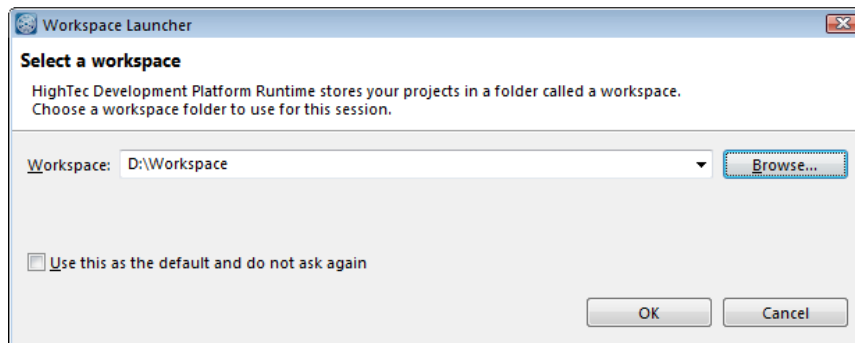

Figure 6 Workspace Launcher
2. Now the Workspace Launcher dialog appears (Figure 6).